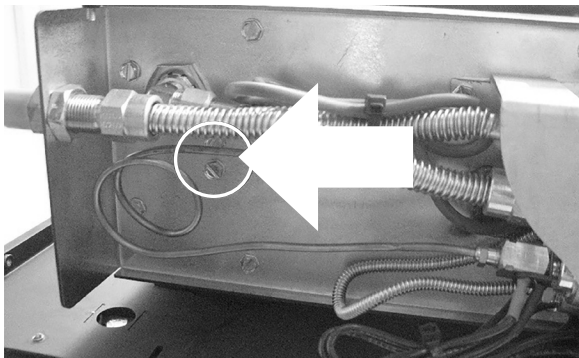

Figure 4
4. The burner is held in place by 4 sheet metal screws, 2 on the left and 2 on the right. **Figure 4** shows 2 screws on the left under side of the firebox, remove these screws. Keep these screws in a safe place as they will be needed to install the Log Set burner.